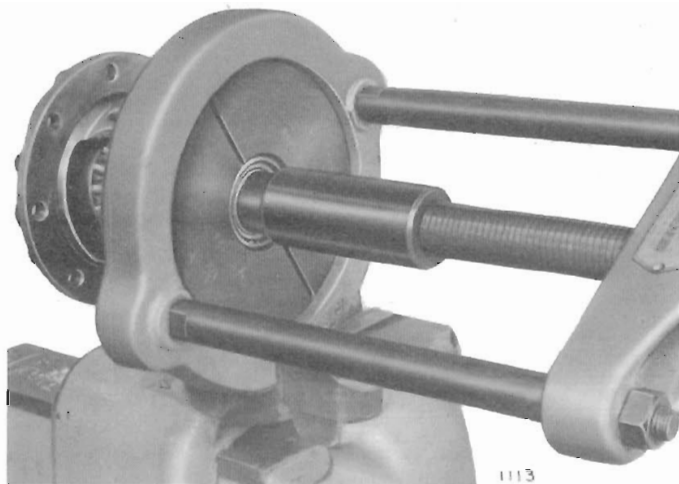

Fig. 31. Using Churchill press and adaptor ring S102 to remove the crown wheel carrier bearings
Remove the differential carrier (36), the spreading tool (S.101) and, by use of the special puller shown on Fig. 31, remove the bearings (35).